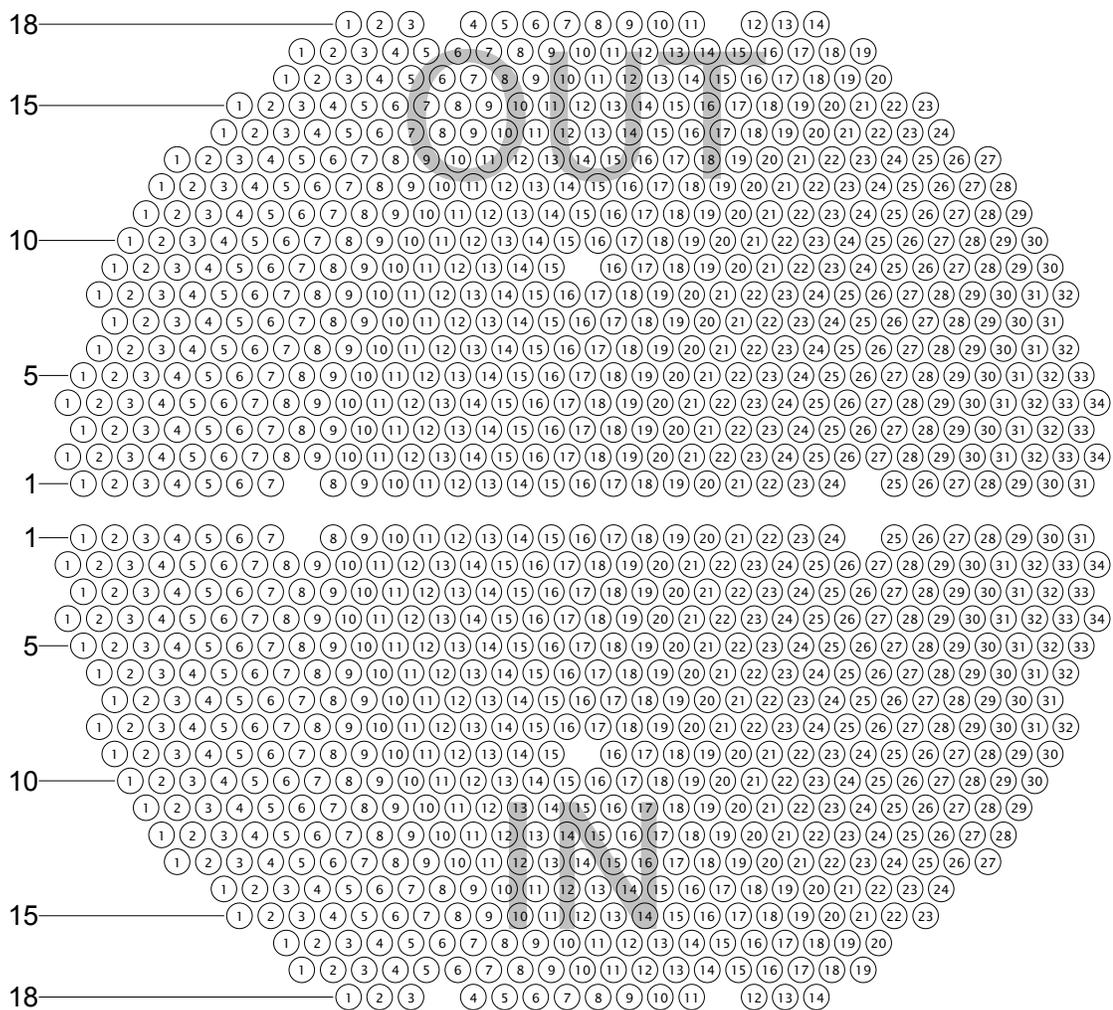

Figure 7-1. Tutorial Component (FWH3A)
For this tutorial, we will create a U-tubed feedwater heater showing both halves (legs) of the tube bundle. The intent is to inspect only the straight-lengths on each leg and we will setup the component file accordingly. Figure 7-1 shows the component that we'll build during this tutorial.
To build the component shown in Figure 7-1:
- STEP 1:** Look at Figure 7-1. Counting the blank spaces in the first row on the lower half (IN), decide on the total number of tubes in row #1. You should come up with **33**.
- STEP 4:** Look at Figure 7-1. Decide on the total number of tubes in row #2. You should come up with **34**.
- STEP 9:** Click **OK** on the *Auto Tick Param* dialog. Row ticks now appear on every 5th row of the tube group, plus the *first* and *last* rows. Compare the tubesheet map on-screen to the lower half of Figure 7-1.